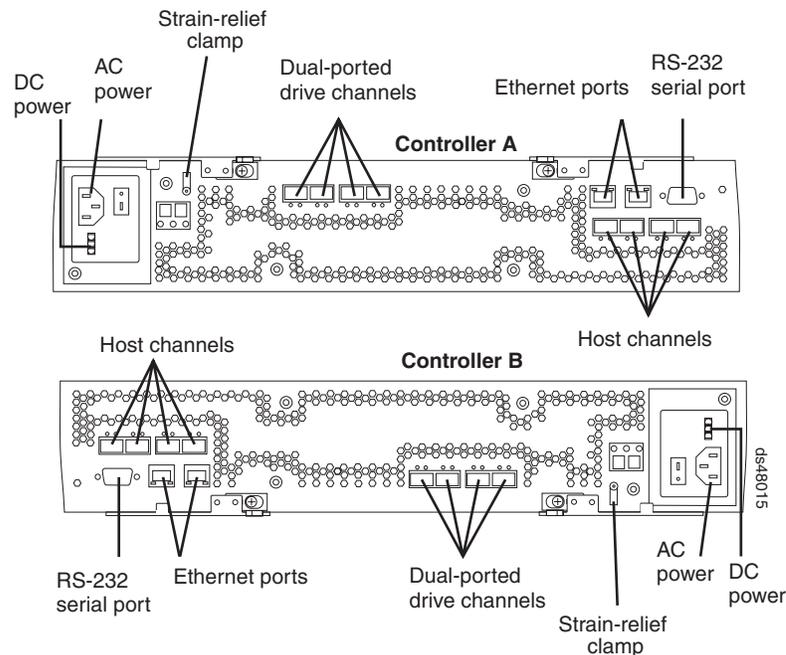

Figure 67. RAID controller connections
**Note:** You do not need to remove the interface cables from the controllers to reset the circuit breakers; however, IBM recommends that you remove the cables to make this procedure easier. If you choose to remove the interface cables, ensure that you label each cable so that you can reconnect them correctly to the controller. Figure 67 identifies all of the connectors on the back of the controller.